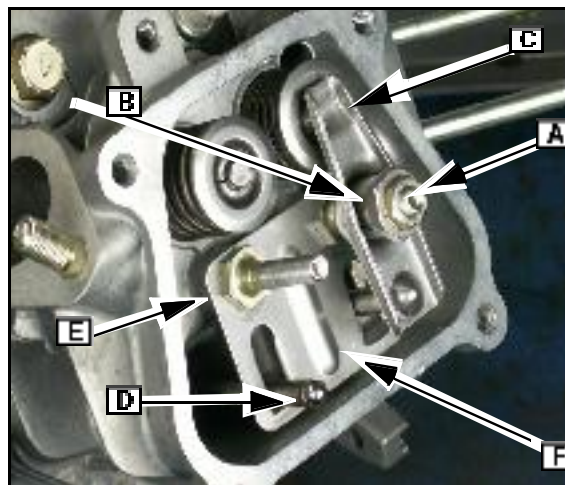

Fig. 2
1. Remove the jamb nut (A) from the rocker arm stud.
2. Remove the rocker arm pivot (B) from the studs and remove the rocker arms ([C] Fig. 2).
3. Remove valve stem caps (if equipped) and push rods (D).
4. Remove rocker stud (E) and push rod guide ([F] Fig. 2).